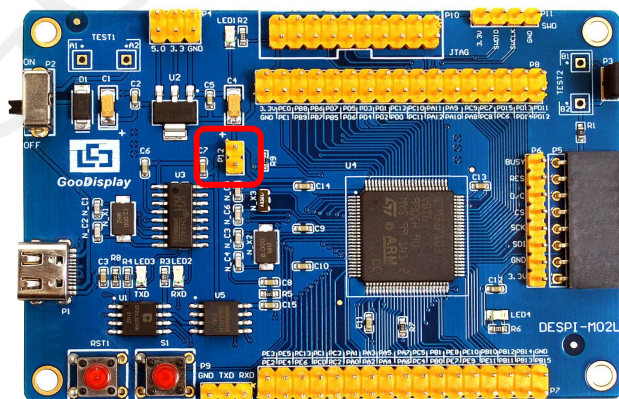

Figure 12 : The position of P12
- 3) Connect P12 with a short-circuit jumper, the position of P12 is shown in Figure 12.